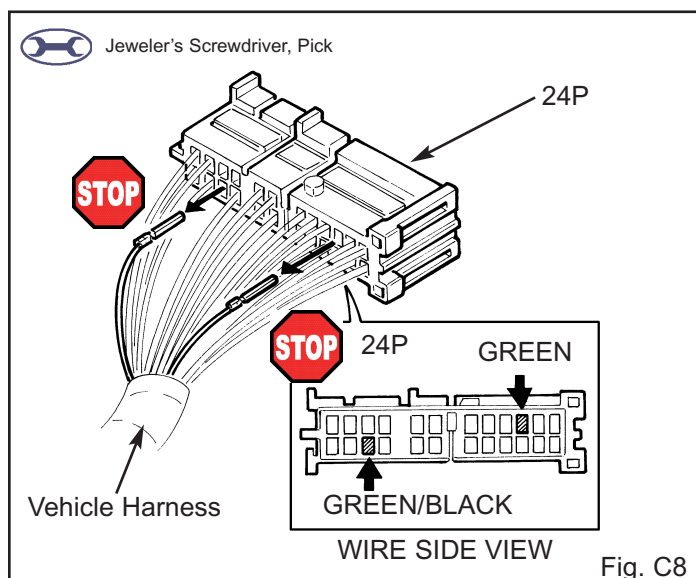

Fig. C8
15. Locate the GREEN/BLACK wire in the bottom row, third space from the left. Using a pick, release and pull out the terminal for the GREEN/BLACK wire. (Fig. C8)
16. Locate the GREEN wire in the top row, ten spaces from the left. Using a pick, release and pull out the terminal for the GREEN wire. (Fig. C8)